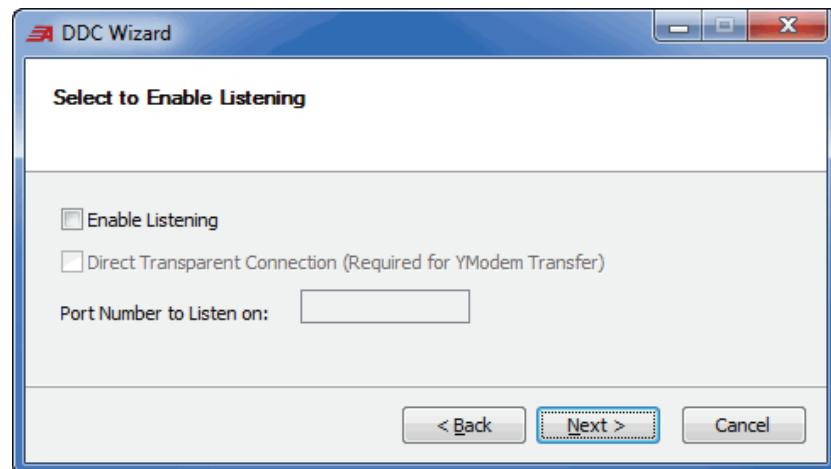

Figure 11 Enable Listening Window
Step 6. Select **Next** and choose **Telnet** as the Select Communication Method. As shown in *Figure 11*, do not enable listening.